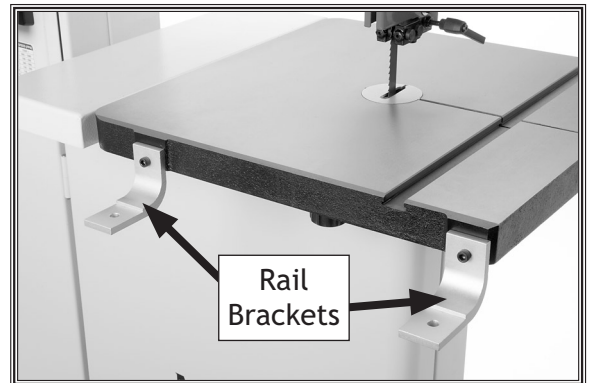

Figure 14. Rail brackets attached to table.
9. Attach the rail brackets to the front of the table with the two M6-1 x 16 cap screws, as shown in **Figure 14**.